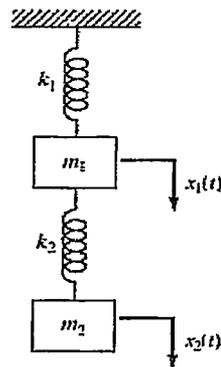

Figure 2
- (b) Figure 2 shows a vibrating system having two degrees of freedom. Determine the two natural frequencies of vibrations and the ratio of amplitudes of motion of m_1 and m_2 for the two modes of vibration. 10